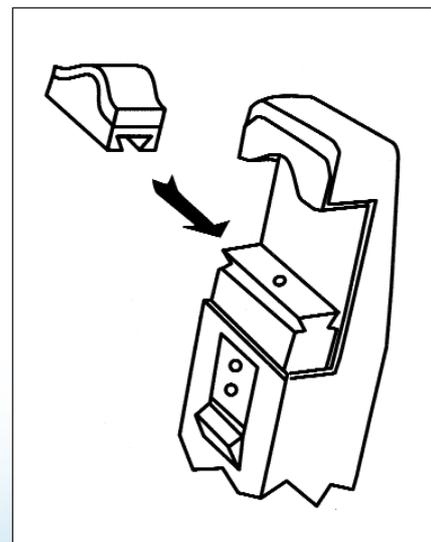

Figure 3
2. Select the appropriate adaptor and slide it into the mating slotted channel of the KI6150 with slight downward pressure, as shown in Figure 3.